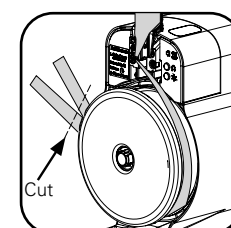

Figure 12
16. Cut excess sleeve from both ends of the knot so that the ends of the sleeves do not extend outside of the refill cover. This will avoid sleeve from jamming the system. (Fig. 12)